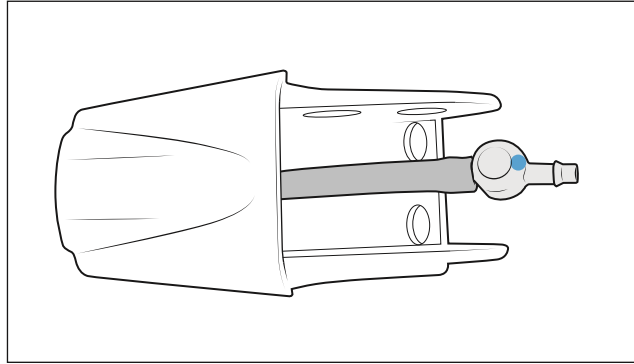

Figure 10
1. Cut off 4" of the supplied hose. Insert one end onto the washer nozzle barb fitting, being sure it seats fully. Thin needle nose pliers will help due to the tight clearances. Install the end of the 1-way valve with the marking from step I-4 onto the other end of the hose attached to the nozzle (fig. 10).